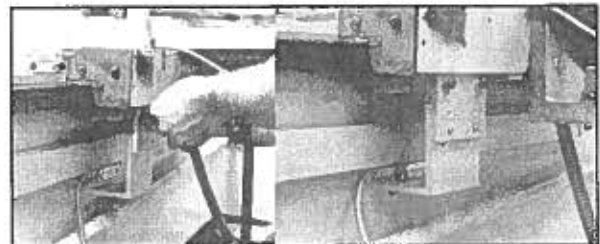
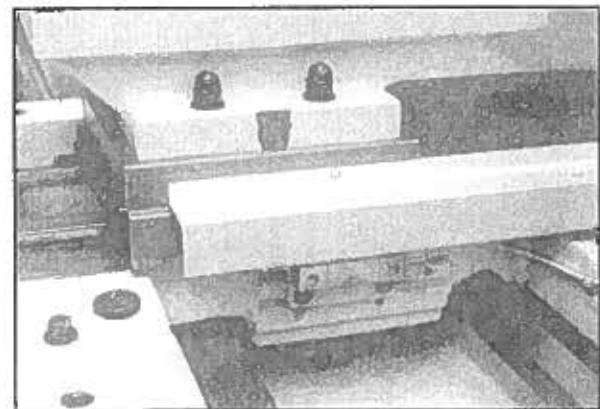

Figure 26. Proper reader head mounting with provided brackets.
Figure 27. Slide cover mounting.
4. Mount the reader head to the saddle with the provided brackets (**Figure 26**). Modification may be required for some lathes. Mount covers over the slides as shown in **Figure 27**.